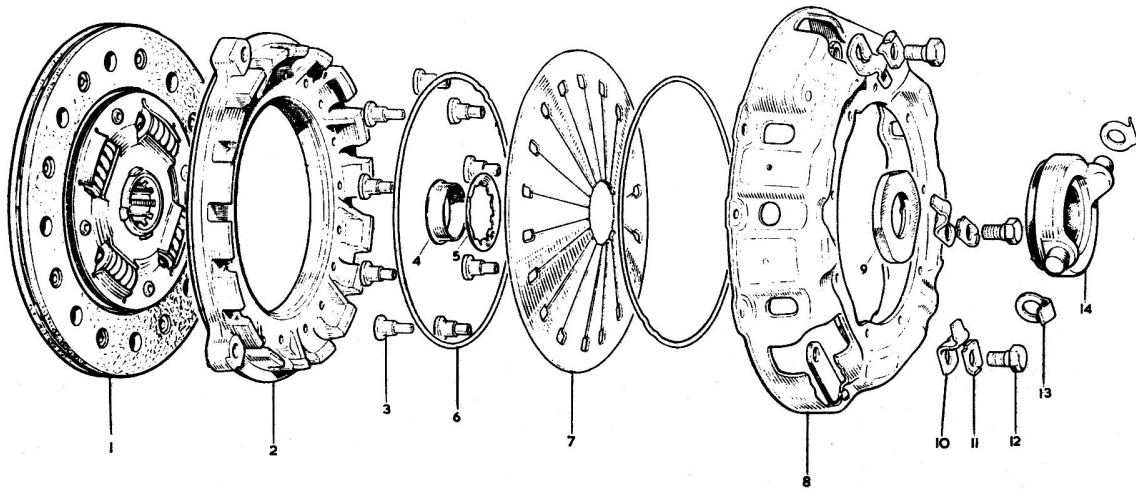

FIG.5.4. EXPLODED VIEW OF THE DIAPHRAGM SPRING CLUTCH
The diaphragm spring clutch fitted to later cars, which is illustrated in Fig.5.4, comprises a steel cover which is dowelled and bolted to the rear face of the flywheel and contains the diaphragm spring, the fulcrum rings and the pressure plate and the driven plate, which, as with the other type of clutch is splined to the first motion shaft of the gearbox.
- 13 Refer to Fig.5.4.